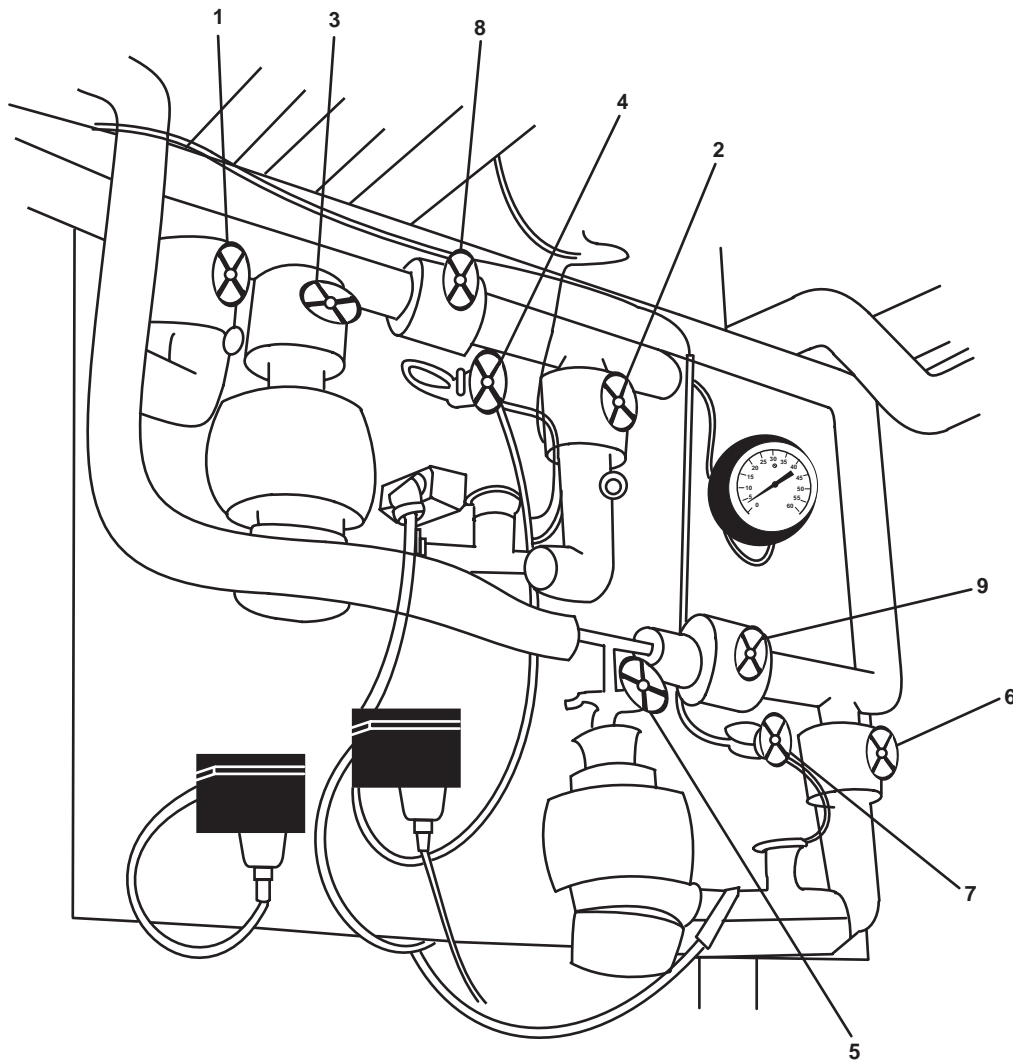

Figure 5. Reefer Refrigerant Piping Valves
- a. RFSS-13, LIQUID LINE CRSVR COV (figure 5, item 1), liquid line crossover cut out
- b. RFSS-14, TXV/STNR/LLSV COV (figure 5, item 2), TXV strainer low-level suction
- c. RFSS-11, TXV/ STNR / LLSV COV (figure 5, item 3), TXV strainer low-level suction
- d. RFSS-8, TXV/ STNR / LLSV COV (figure 5, item 4), equalizing line
- e. RFSS-12, TXV / STNR / LLSV COV (figure 5, item 5), TXV strainer low-level suction
- f. RFSS-15, TXV/STNR/LLSV COV (figure 5, item 6), TXV strainer low-level suction
- g. RFSS-9, EQL LINE (figure 5, item 7), equalizing line
- h. RFSS-6, HAND EXP V (figure 5, item 8)
- i. RFSS-7, HAND EXP V (figure 5, item 9)